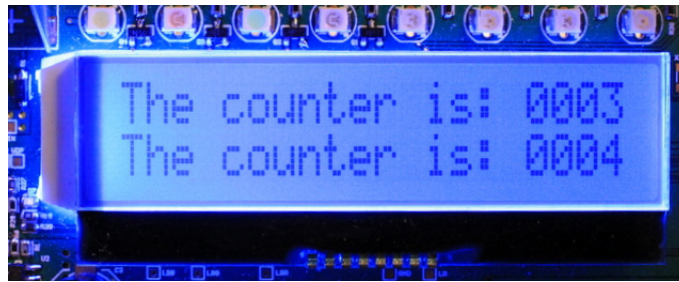

Figure 12.6.2: Exercise 2 solution display
2. Adjust the code so that the first instance of the counter output prints on Line 2, and subsequent instances print on Line 2 and bump the previous line up as shown in Figure 12.6.2. You must keep a copy of the current Line 2 and rewrite it to Line1 (i.e. you are not allowed to regenerate the text on Line 1). Hint: <string.h> is included in this package.